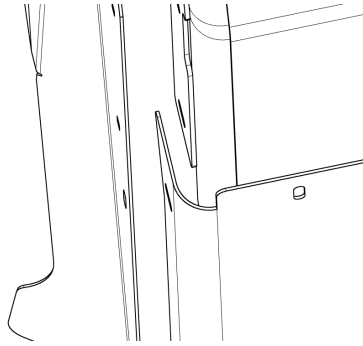

Figure 6a
- B. Slide the panel forward into position making sure that the flanges slide between the mounting plates and the partition on both sides of the vehicle (Fig 6a).